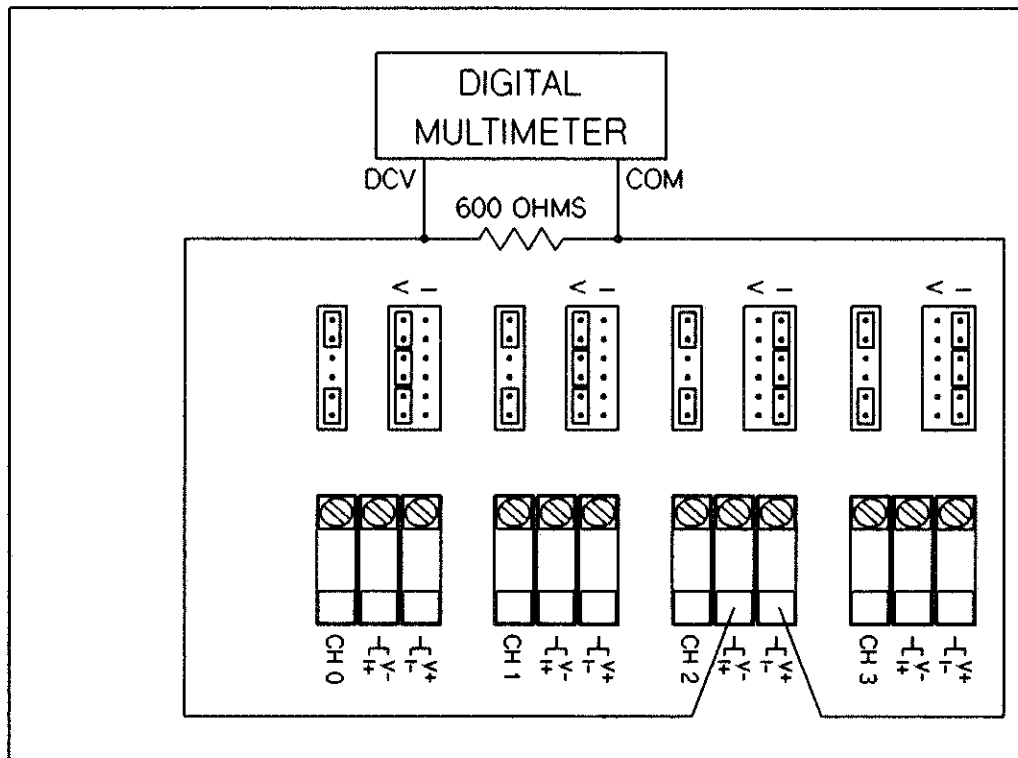

Figure 15-12 HP 44727A/B/C Current Compliance Test
3. Set the multimeter to measure dc volts. On the test fixture, connect the multimeter DCV input to the I+ connection and connect the COM input to the I- connection of the channel to be tested. Connect the 600 to 630 ohm resistor across the channel's I+ and I- connections. The connections are shown in Figure 15-12.